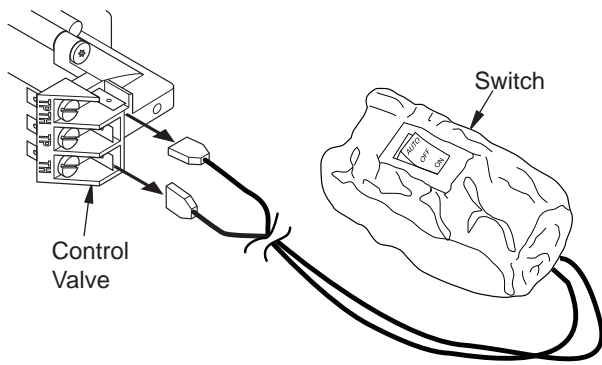

Figure 17- Disconnecting Switch from Control Valve
6. If installed, disconnect AUTO/OFF/ON switch wire from control valve at TPTH and TH locations (see *Figure 17*).
7. Connect wires from hardware pack (with remote receiver bracket) to control valve at the TPTH and TH locations as shown in *Figure 17*. Connect other ends of these wires to remote receiver wires.